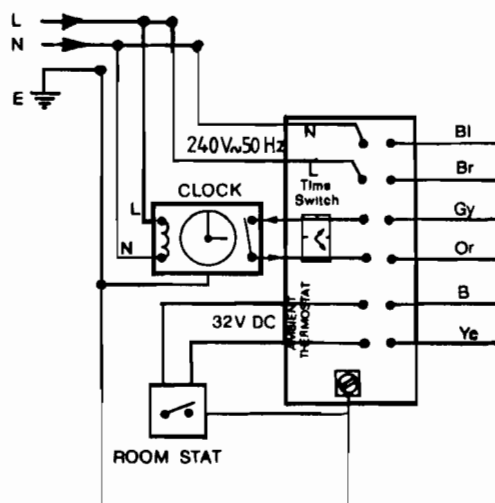

Fig. 13
- **Do not use L and N connections in the terminal box of the boiler to connect the time-switch but connect as described Fig. 13.**
- Pass the room thermostat and time-switch cables through the right-hand cable entry, remove the link and connect the output leads to the appropriate terminals, as described Fig. 13.